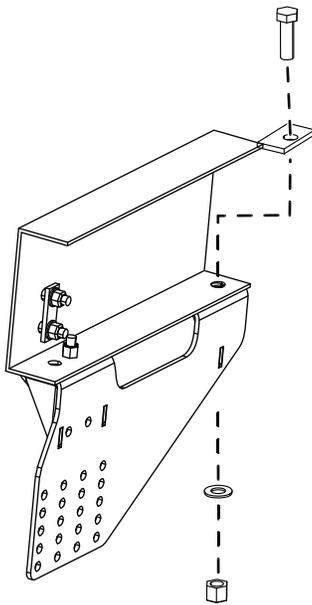

Figure 2
- Loosely secure the front of the sideplates to the vehicle frame using 2 bolts (5/8 x 2 inches), shims (1/4 inch), washers (5/8 inch), and nylon locknuts (5/8 inch) as shown in Figure 2.